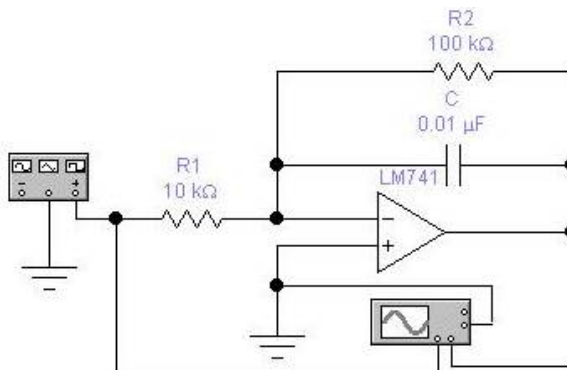

Figure 5.6 – Integrator scheme
10. Draw the diagram fig. 5.6.